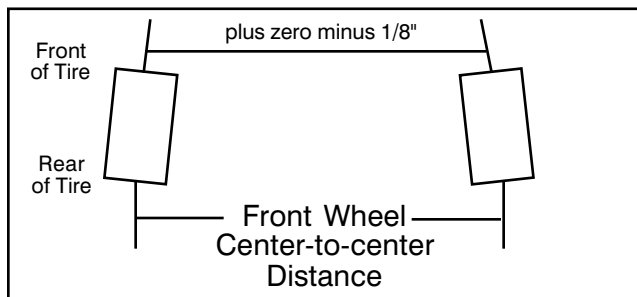

FIG. 28
1. While the vehicle is unloaded measure center-to-center distance (axle height) at front and rear of steering tires. Front measurement must be equal to the rear measurement plus zero minus 1/8 inch. (FIG. 28)